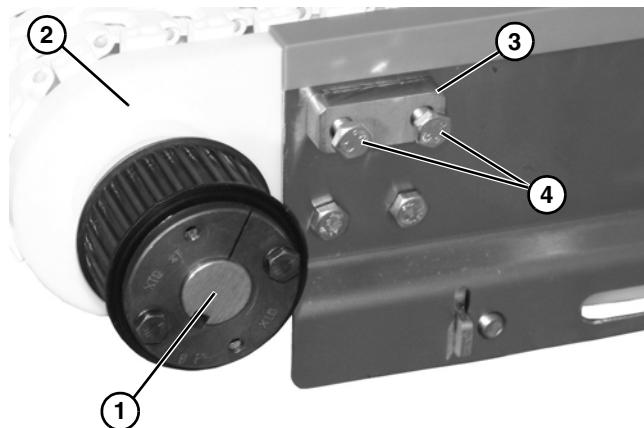

Figure 5
2. Locate drive output shaft (Figure 5, item 1). Remove top two existing bolts securing headplate (Figure 5, item 2) to conveyor frame.
3. Install spacer (Figure 5, item 3) and two longer bolts provided (Figure 5, item 4) into conveyor frame and headplate. Leave bolts loose with enough space to slide on mounting assembly.